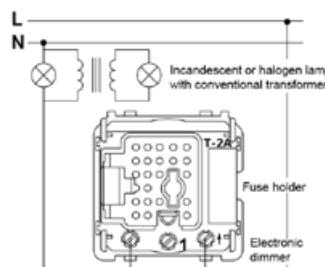

Figure 1
- Connect the dimmer based on the wiring scheme (Figs. 1 and 2).
The electrical wiring for these devices is performed according to the wiring diagram shown in Figure 1.
The incoming arrow indicates the phase/line wire of the installation and the outgoing arrow indicates the wiring towards the receptor/load according to Figure 1.
If the device is to be installed individually, follow the instructions indicated in Figure 1.